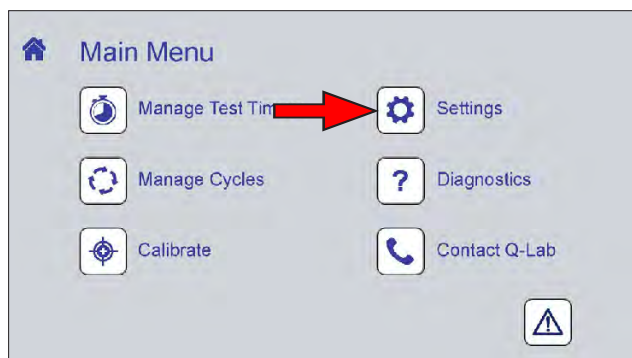
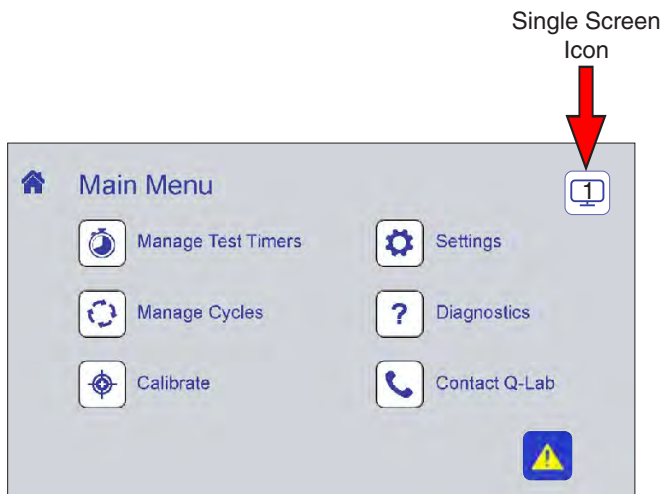
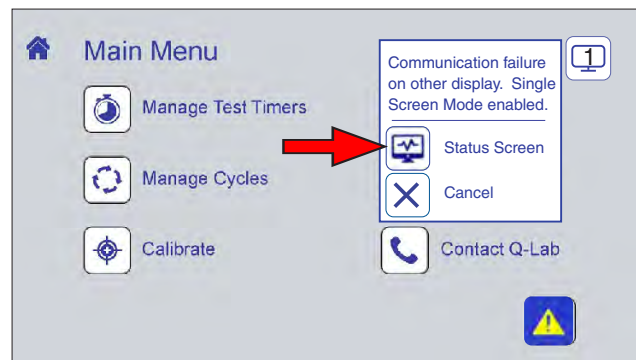

Figure 11.7a: Touch the Settings icon on the Main Menu screen to display settings controls.
Figure 11.7x: Main Menu in Single Screen Mode showing the single screen icon. Touch the single screen icon.
Figure 11.7y: Touch the Status Screen icon to display the Status Screen.
- On the Main Menu screen touch the Settings icon (Figure 11.7a) to display the Settings screen.
- o A button appears in the upper right corner of the screen to toggle the remaining screen between Main Menu and Status displays (see Figure 11.7x through Figure 11.7aa).
- If one of the display screens fails the Xe-2 main controller will enter Single Screen Mode as shown in Figure 11.7x.
- Figure 11.7y through Figure 11.7aa illustrate how to toggle between Main Menu and the Status Screen displays.
Figure 11.7aa: Touch the Main Menu icon to display the Menu Screen.